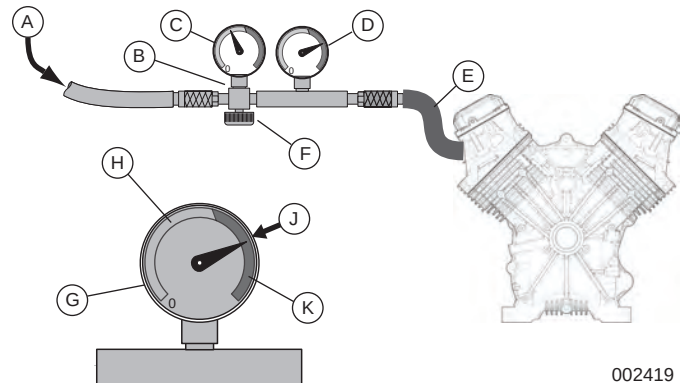

Figure 10-8. Cylinder Leakdown Tester
11. See Figure 10-8. Attach the cylinder leak down tester adapter to the spark plug hole being tested.